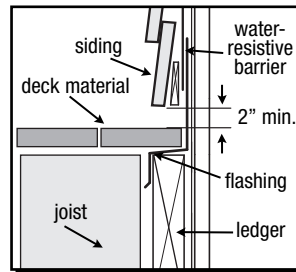

FIGURE 9
- Maintain a 2" minimum clearance between James Hardie products and decking material (fig. 9).